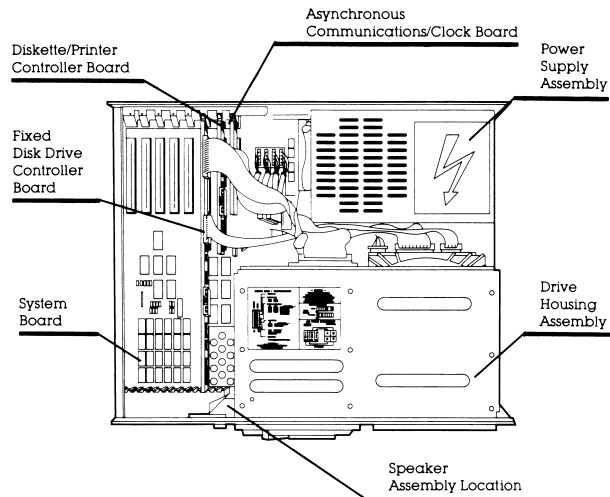

Figure 7-10. Overhead View of the COMPAQ DESKPRO Personal Computer with the System Unit Cover Removed.
3. Become familiar with the arrangement of the parts in the computer before beginning the following removal and replacement procedures (see Figures 7-10 and 7-11).